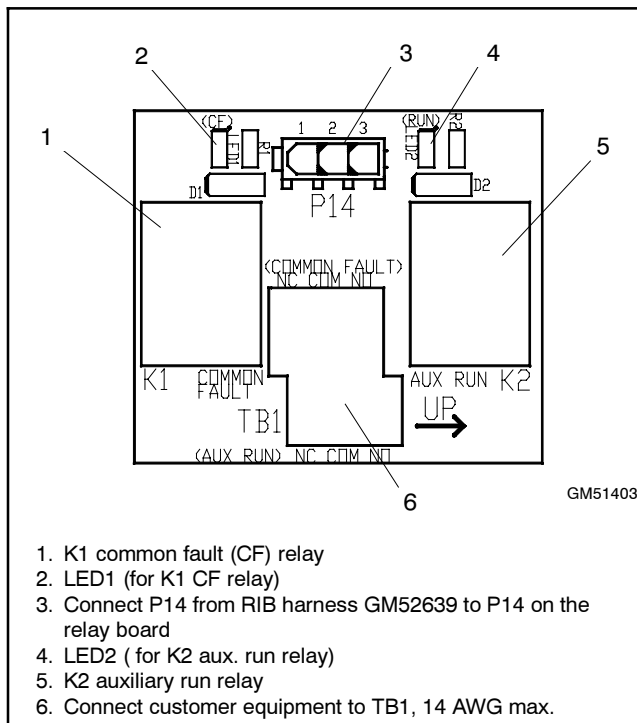
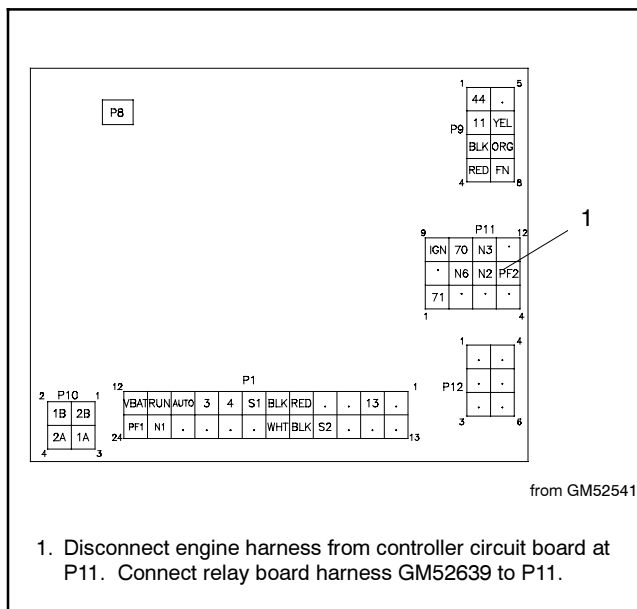
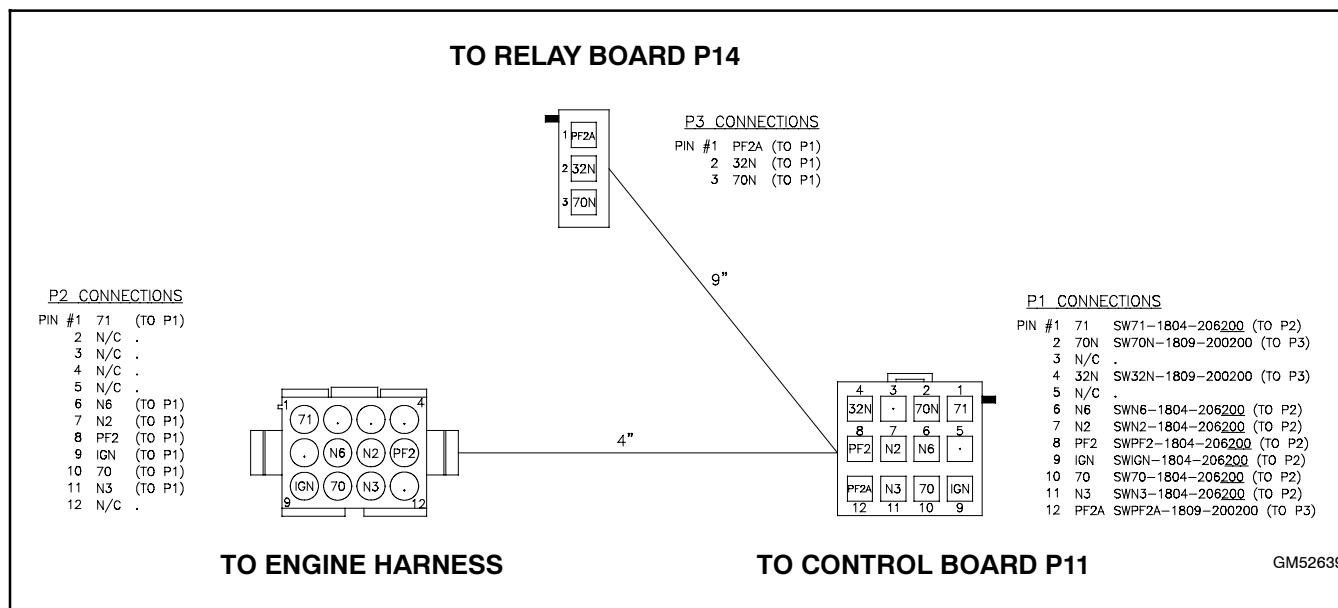

Figure 4-10 Optional Relay Board
Figure 4-11 Connection to Controller Circuit Board
Figure 4-12 Relay Board Connection Harness
First check for loose connections. Check the relay board harness connections to the relay board, control board, and engine harness. See Figure 4-10, Figure 4-11, and Figure 4-12.
Check for loose customer connections to terminal strip TB1 on the relay board. See Figure 4-10 and Figure 4-13.
An LED is associated with each relay. See Figure 4-10. The LED indicates power to the corresponding relay. If the LED is illuminated but the relay is not activated, the relay is faulty. The individual relays are not replaceable. If one or more relays are faulty, replace the entire RIB.
5. Connect three-pin connector of harness GM52639 to P14 on relay board GM51403. See Figure 4-10 and Figure 4-12.
6. Verify that harness GM52639 is securely connected to P11 on the control board. See Figure 4-11 and Figure 4-12.
7. Verify that harness GM52639 is securely connected to the engine harness. See Figure 4-12.